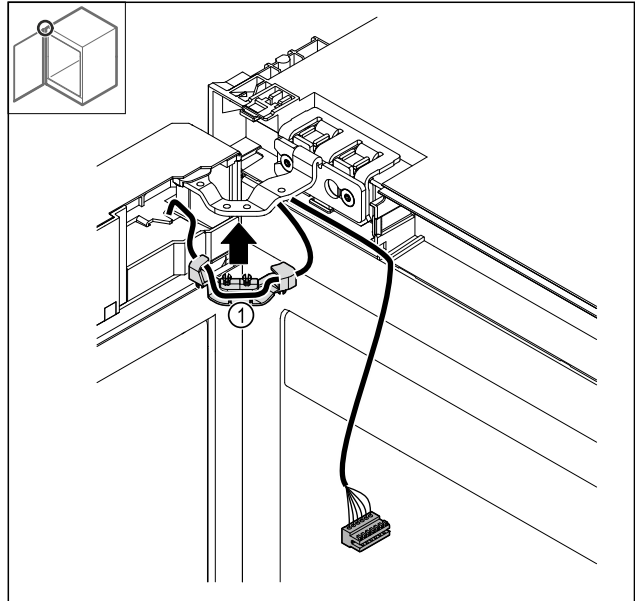

Fig. 46
- ▶ Push the cable holder Fig. 46 (1) into the hinge.